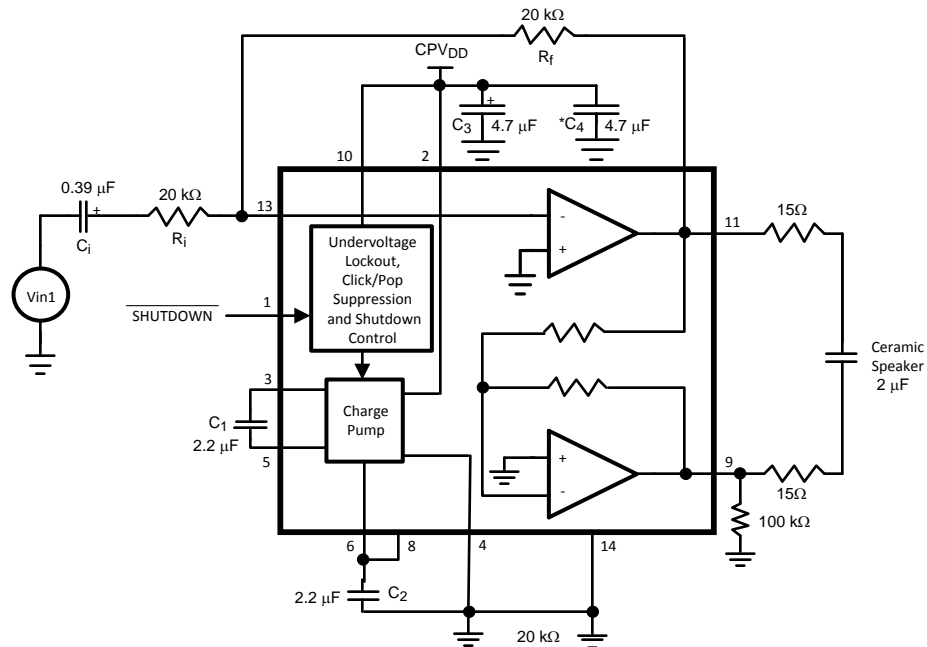

Figure 1. Typical Application Circuit
- (1) All voltages are measured with respect to the GND pin unless otherwise specified.
- (2) Absolute Maximum Ratings indicate limits beyond which damage to the device may occur. Operating Ratings indicate conditions for which the device is functional but do not ensure specific performance limits. Electrical Characteristics state DC and AC electrical specifications under particular test conditions that ensure specific performance limits. This assumes that the device is within the Operating Ratings. Specifications are not ensured for parameters where no limit is given; however, the typical value is a good indication of device performance.
- (3) If Military/Aerospace specified devices are required, please contact the Texas Instruments Sales Office/Distributors for availability and specifications.
- (4) The maximum power dissipation must be derated at elevated temperatures and is dictated by T_{JMAX}, θ_{JA} , and the ambient temperature, T_A. The maximum allowable power dissipation is P_{DMAX} = (T_{JMAX} – T_A)/ θ_{JA} or the number given in Absolute Maximum Ratings, whichever is lower. For the LM4xxx typical application (shown in Figure 1) with V_{DD} = yyV, R_L = 2 μ F+30 Ω mono BTL operation the total power dissipation is xxxW. θ_{JA} = 40°C/W.
- (5) Human body model, 100pF discharged through a 1.5k Ω resistor.
- (6) If the product is in shutdown mode and V_{DD} exceeds 3.6V (to a max of 4V V_{DD}), then most of the excess current will flow through the ESD protection circuits. If the source impedance limits the current to a max of 10mA, then the part will be protected. If the part is enabled when V_{DD} is above 4V, circuit performance will be curtailed or the part may be permanently damaged.
- (7) Machine Model, 220pF-240pF discharged through all pins.
The following specifications apply for $V_{DD} = 3.6V$, $A_{V-BTL} = 6dB$, $Z_L = 2\mu F + 30\Omega$ unless otherwise specified. Limits apply to $T_A = 25^\circ C$. See Figure 1.
The following specifications apply for $V_{DD} = 3.0V$, $A_{V-BTL} = 6dB$, $Z_L = 2\mu F + 30\Omega$ unless otherwise specified. Limits apply to $T_A = 25^\circ C$. See Figure 1.